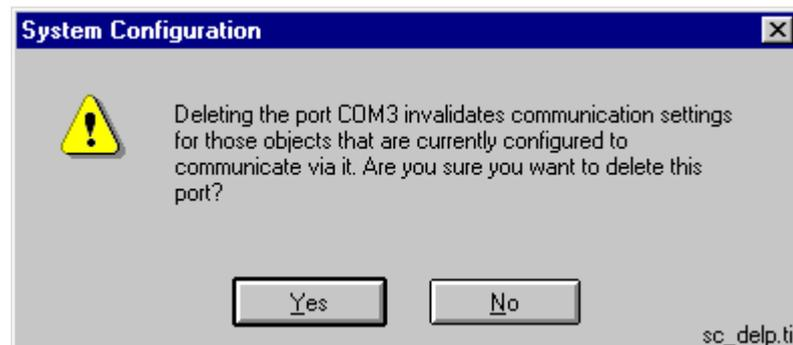

Fig. 4.5.4.4.-1 Confirm to delete the selected serial port
3. When prompted to confirm the deletion, see figure 4.5.4.4.-1, click Yes to delete the serial port. Otherwise click No to leave the serial port intact.